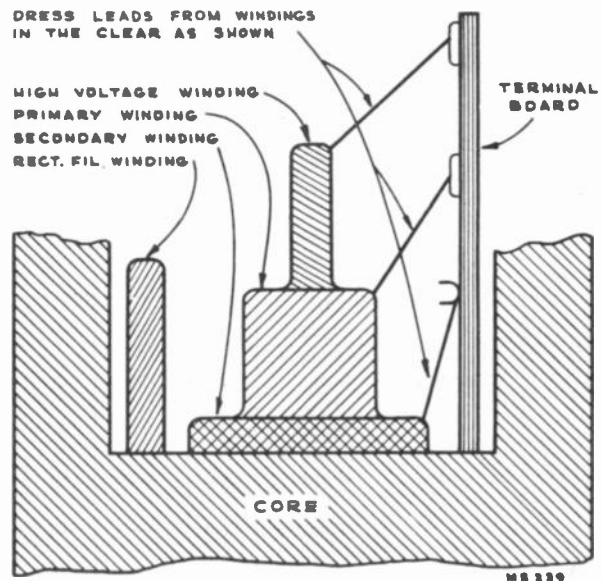

Figure 9—T110 Lead Dress
- Dress T110 winding leads as shown in Figure 9.